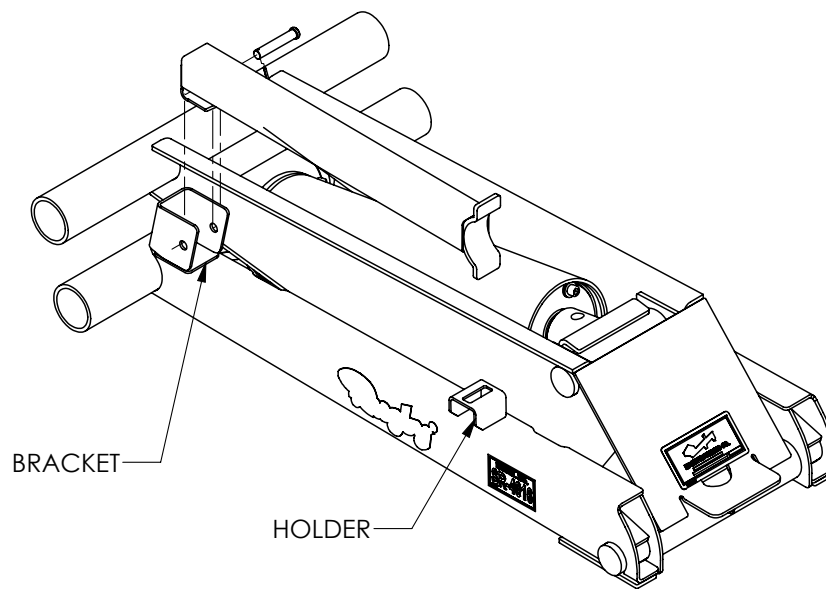

Figure 5
1. Insert the body prop into the body prop bracket. (**Figure 5**).